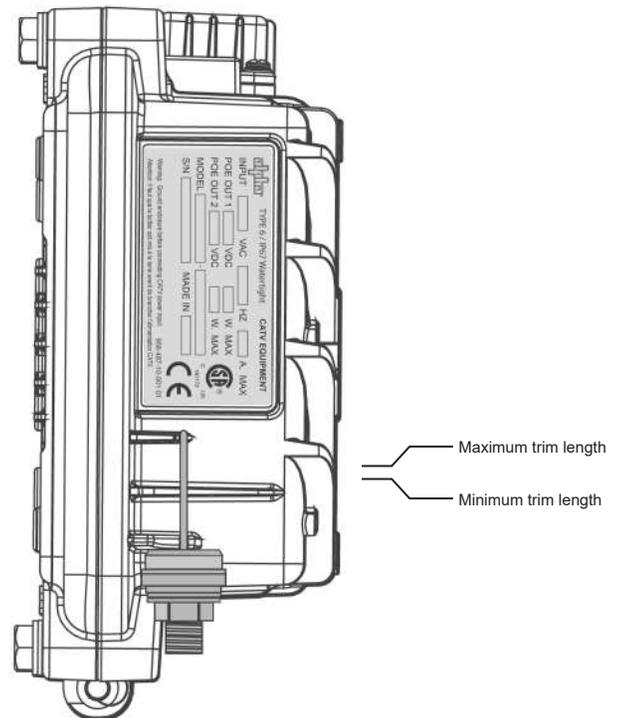

Fig. 2-16, Stinger Trim Guide
5. Prior to installing the new connector, verify the stinger has been trimmed per the stinger trim guide on the side of the enclosure (Fig. 2-16) or the label inside the enclosure.